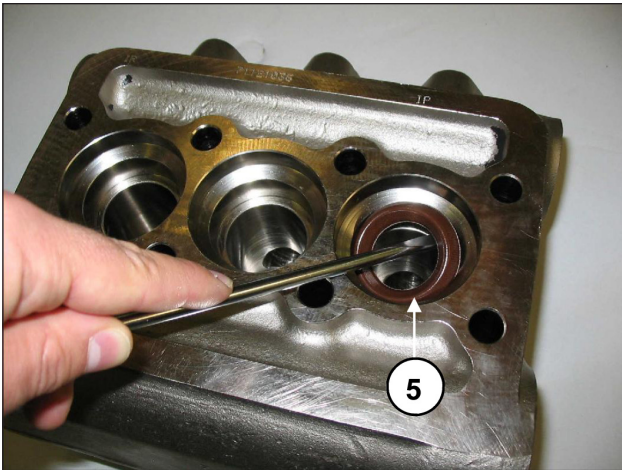

Fig. 21
- C) Extract the high pressure seals from the head and the low pressure ones from the support, using simple tools as indicated in Fig. 21, pos. ⑤, being careful not to damage the respective housings.